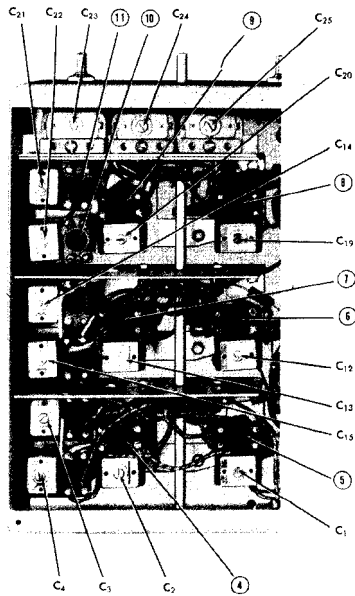

Figure 5-1. Radio Receiver Model 8-40, view showing aligning points.
#### (2) I-F Amplifier Alignment. - (See Fig. 5-1)
(e) Adjust transformers T-13, T-14, and T-15 for maximum output meter reading using just enough signal generator output to provide a good resonant swing on the output meter. The signal level at the generator should be approximately 52 microvolts for a 500 milliwatt audio output level. Repeat the alignment procedure until assured of accurate alignment. Refer to figures 5-1 for the location of 1-f transformer adjustment screws #1 through #3 inclusive on transformers T-13, T-14, and T-15.
NOTE - Refer to figure 5-1 for all r-f alignment points.